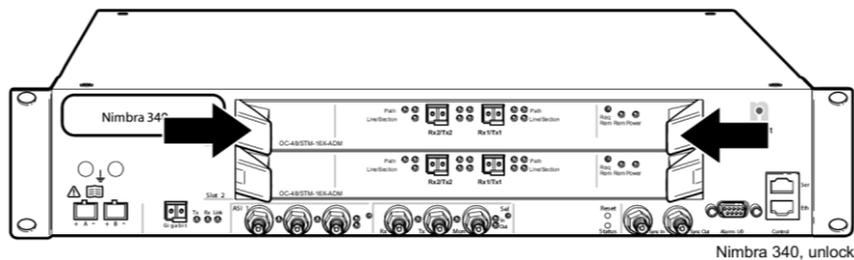

Figure 30. Locking the module in place
3. When the module is fully inserted, push the locks inward, according to Figure 30, and tighten the screws to lock the module to the chassis.